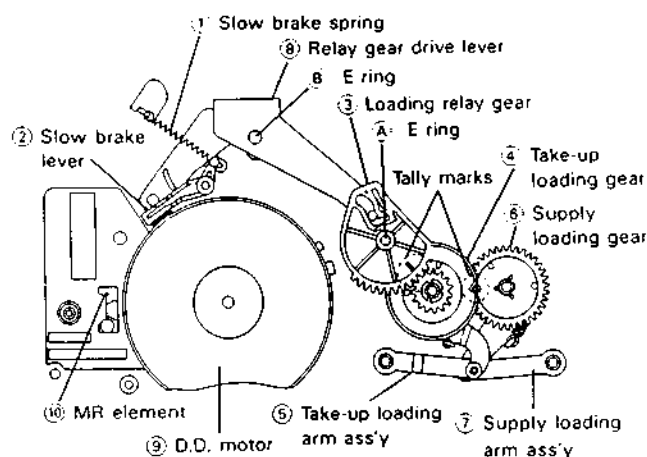

Figure 1-31.
2. In reassembling, match the tally marks on the gears, as shown in Fig. 1-31
1. Place the relay gear drive lever in the unloading state as shown in Fig. 1-31.
2. Set the relay shifter lever ④ to the main chassis; the shifter lever should be adjusted to the reverse guide spring hole in the main chassis. Then place the master cam so that the cut-off part of the boss ③ should face the direction of arrow ⇒ ⑤.
3. Place the half-loading reciprocating lever ① so that its cam follower comes in the outermost cam groove. Now attach the E ring ④.